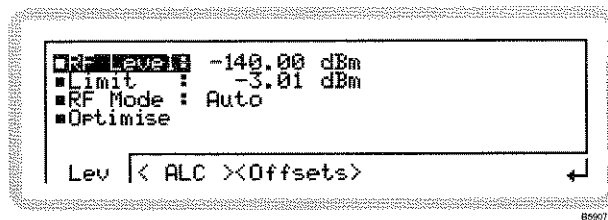
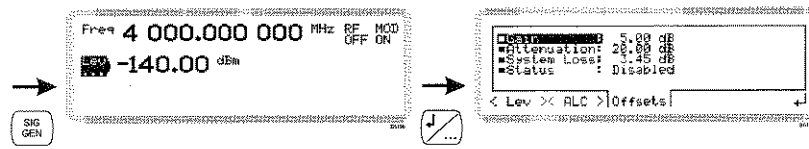

Fig. 3-21 RF level
Fig. 3-24 RF level offset
- 2 Press **↙** to view the sub-menus. *RF Level* is highlighted (Fig. 3-21).
From the RF level menu of Fig. 3-21, touch <ALC> or press **<TAB>** to display the ALC screen (Fig. 3-22).
- 1 From the RF level menu of Fig. 3-21, touch <Offsets> or press **<TAB>** to display the RF offset screen (Fig. 3-24).